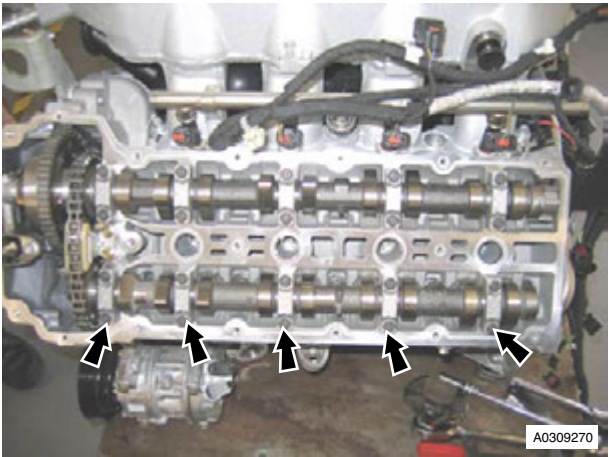

Figure 2
5. Loosen the bolts that attach the ten exhaust camshaft bearing caps gradually in steps (refer to Figure 2 - left side shown).